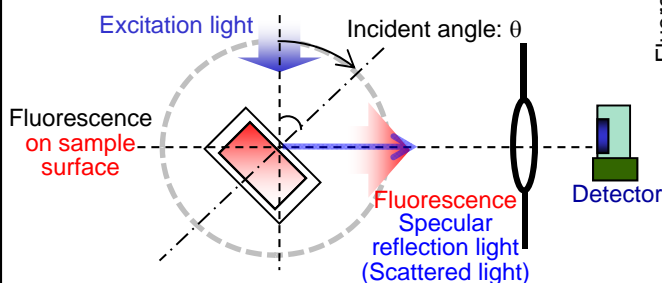

Figure 2. Pattern Diagram of Surface Photometry
As shown in Figure 2, lights other than fluorescence, such as specular reflection light and scattered light originating from the excitation light, occur on the sample surface.
*1 The experiments without the upper surface inclination shown in Figure 2, 3, and 4 were conducted by using a custom-made accessory with the capability to change the incident angle.